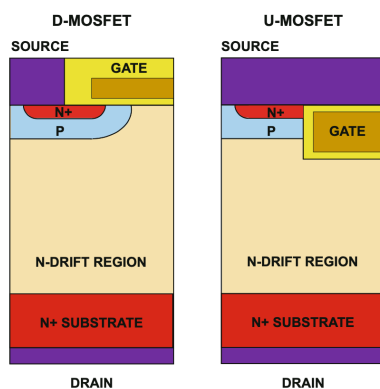

Fig. Q1a
- (a) Fig. Q1a shows schematic cross sectional structures of two types of power MOSFETs. Describe their differences and advantages in terms of device performance and fabrication. (10 marks)
- (b) The on-state resistance of the D-MOSFET in Fig. Q1a can be determined by the sum of various components as given in the following equation,
- (c) The surface roughness scattering is predominant under strong inversion conditions for the MOSFET in Fig.Q1a. Explain the main reason. (7 marks)